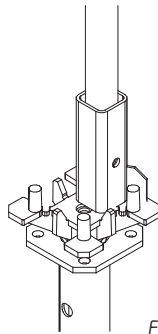
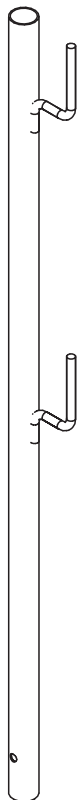
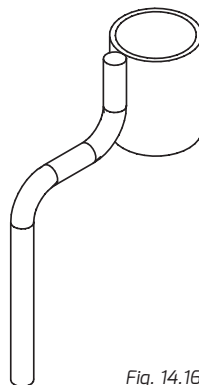

Fig. 14.12
Fig. 14.14
Fig. 14.16
- On each edge of the ceiling installed which is not fitted with the railing you should install a barrier that protects the employees against falling from the height. To do this you should use the head with the post socket (fig. 14.12 and 14.15) and the working platform posts (fig. 14.14) and the toeboard grips (fig. 14.16).